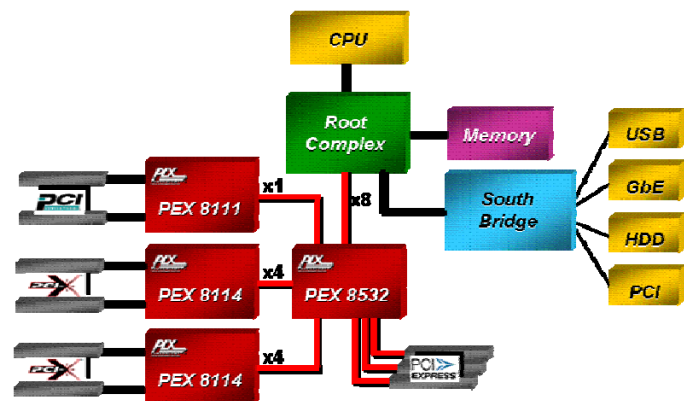

Figure 1. Fan-in/out Usage
The PEX 8532 supports a large number of port configurations. For example, if you are using the PEX 8532 in a fan-out application (such as in Figure 1), you may configure the upstream port as x8 and the downstream ports as six x4 ports; two x8 & two x4 ports; three x8 ports; or any other combination as long as you don't run out of lanes (32) or ports (8). For a peer-to-peer application, you can configure all eight ports as x4 or x2, or a combination of the two. In a port aggregation application, you can configure four x2 or x4 ports for aggregation into one x8 or x16 port.
Figure 1 shows a typical **server-based** design, where the root complex provides a PCI Express link that needs to be expanded into a larger number of smaller ports for a variety of I/O functions each with different bandwidth requirements.